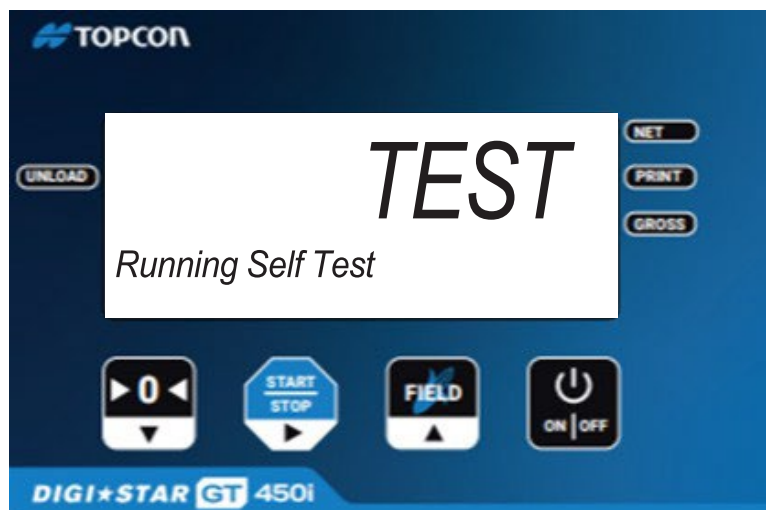

Figure 3-1: Run Self Test
1. Press **ON/OFF** (2x) within 2 seconds to start the self test (Figure 3-1).